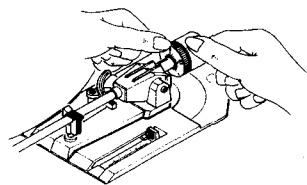

Fig. 16
4. Hold the counterweight at the adjusted position and turn the tracking force dial until the "0" mark is aligned with the index line on the tonearm weight shaft. (Fig. 16)